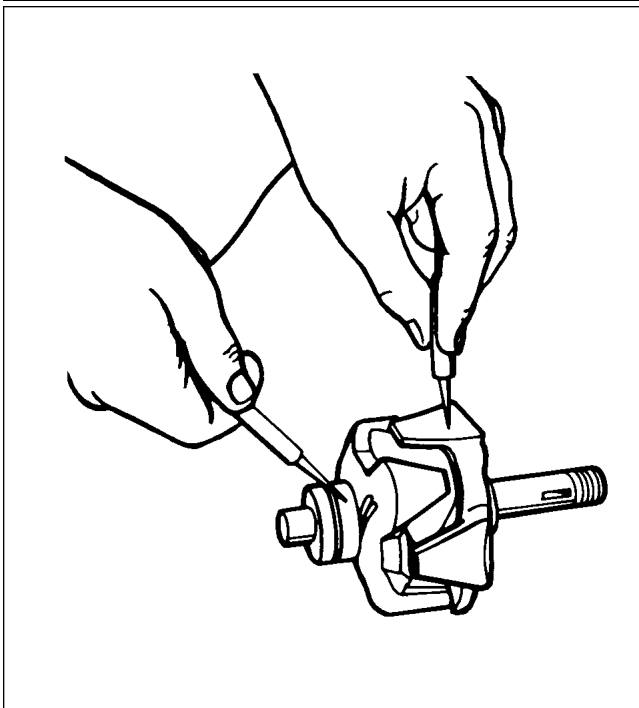
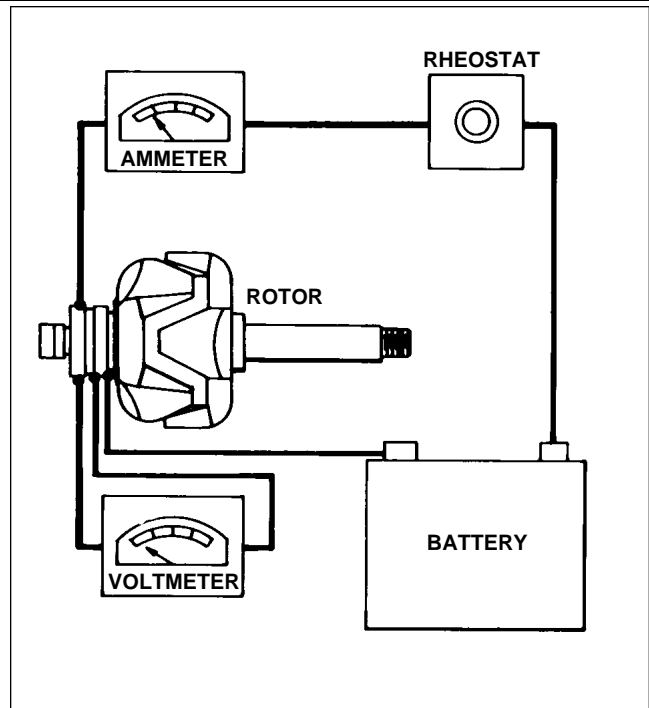

Figure 24-7. Testing Rotor For Ground
Figure 24-8. Testing Rotor For Shorts
- a. Rotor: Rotor must be tested for grounded or shorted windings. Ground test is made with test probes, connected in series with a 110-volt test lamp, an ohmmeter, or any type of continuity tester. (Refer to Figure 24-7.) There must not be continuity between slip rings and rotor shaft or poles. To test for shorted turns in rotor winding, connect a voltmeter, ammeter, and rheostat as in Figure 24-8, or use an ohmmeter. Rotor current draw and resistance are listed in alternator service test specifications paragraph. Excessive current draw or a low ohmmeter reading indicates shorted windings. No current draw or an infinite ohmmeter reading indicate an open winding.
- (1) Touch one test probe to a rectifier heat sink and the other test probe to a lead from one of the rectifiers in that heat sink.
- (2) Reverse position of the leads.